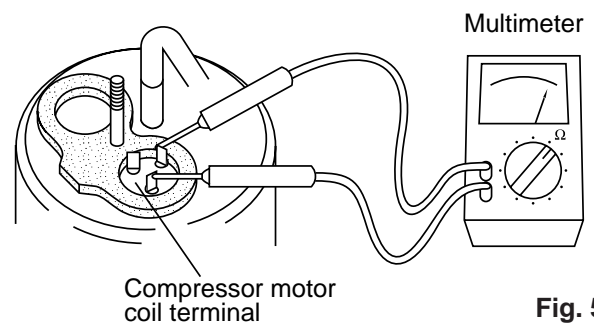

Fig. 5
Remove the terminal cover of the compressor motor, set the resistance measuring range of the multimeter to "X1 Ω " and check the continuity between each pair out of the 3 terminals as shown in Fig. 5.
- (1) Remove the front grille. (Fig. 5)